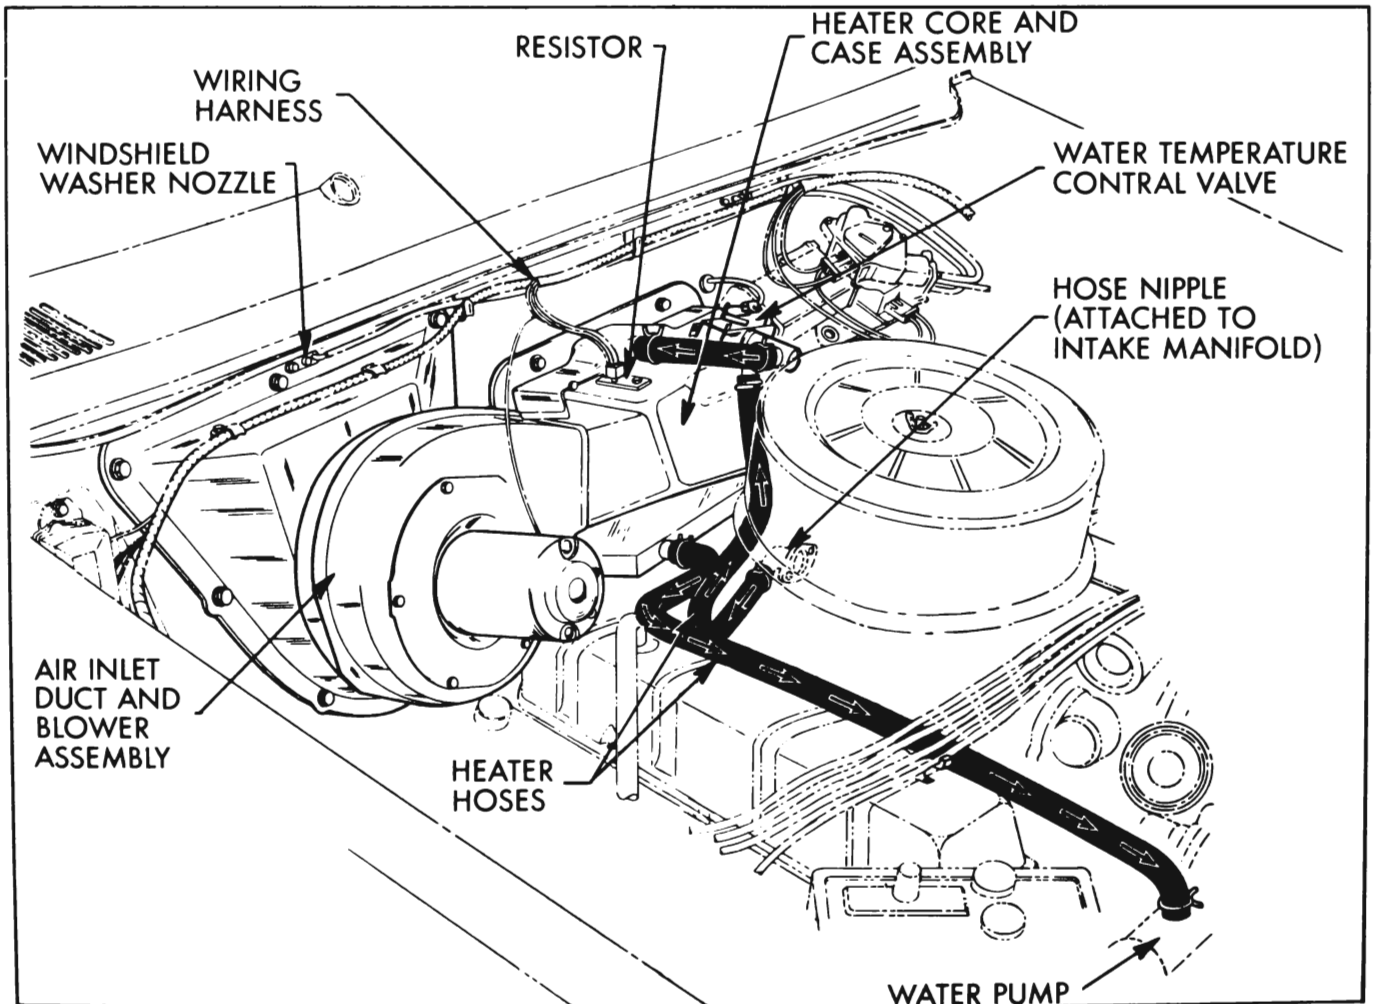

Figure 11-5—Heater Water Flow
The heater temperature control valve controls the temperature of the heater air entering the passenger compartment by regulating the flow of hot water through the heater core. This flow of hot water is regulated automatically by the signal from a capillary tube coiled on the inner side of the heater core. As a result, for any selected setting of the heat range control, relatively constant heater air temperature will be maintained at all car speeds. Water flow through the heater when the temperature control valve is open, is from the rear of the intake manifold through the temperature control valve, into the top of heater core, through core, out of core at bottom and to suction side of water pump. See Figure 11-5.
2. Remove right windshield washer nozzle. See Figure 11-5.
2. Remove inlet hose from temperature control valve and outlet hose from heater core. See Figure 11-5.